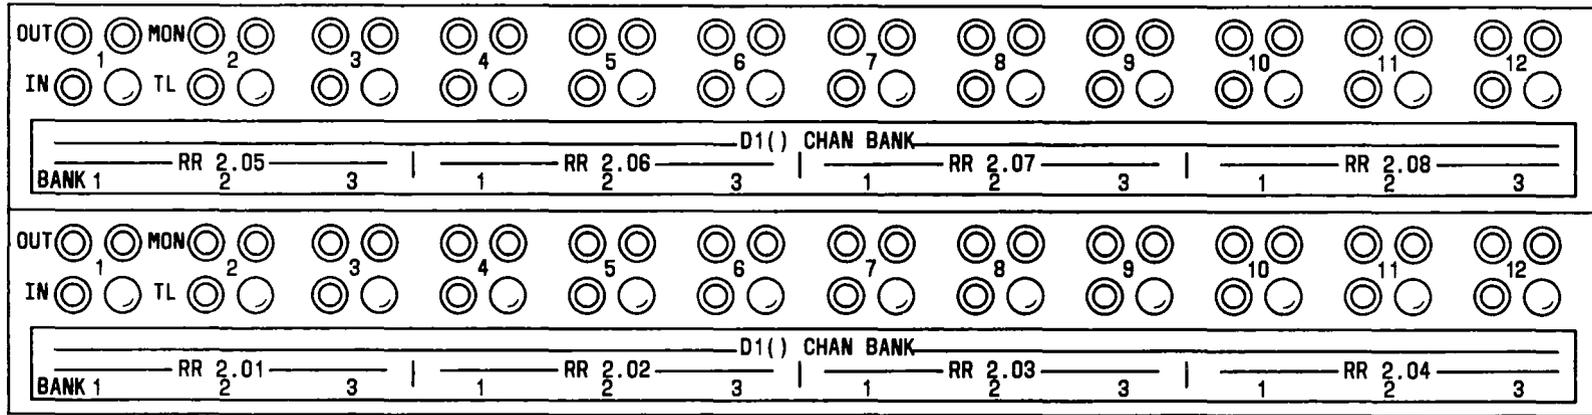

Fig. 1—D1 ( ) Channel Bank—DSX-1 Appearance
**3.05** Identification of the equipment connected to the DSX jack sets on the panels is accomplished by use of designation strips at the bottom of the panel, front and rear. Different color designation cards are available for each type DSX. To identify carrier routes, 91K designation strips with E-6457 record cards are mounted on the sides of the bay next to the jack panels. Figures 1 through 19 show typical jack panel labeling.